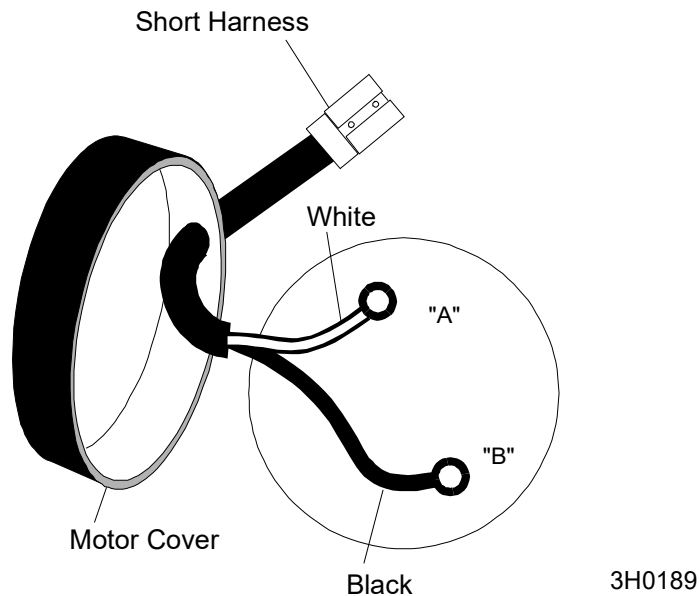

FIG. 1-12
See Figure 1-12.
2. Install the short male harness to the power feed motor. **See Figure 1-12.** Route the harness cable through the motor cover grommet. **NOTE:** A lubricant may be necessary to fit the harness through the grommet.